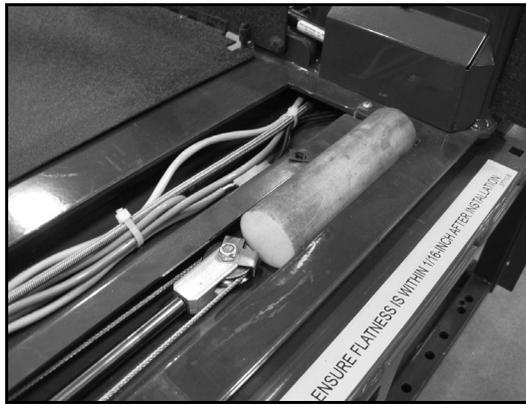

FIGURE 3-8
4. Refer to **Figure 3-8**. Partially stow lift and insert a 6" x 2" x 2" wooden block (or similar) behind gas spring. This will compress gas spring and decrease tension on cable.
13. Pull cable and insert wooden block (or similar) in baseplate, as shown in **Figure 3-8**, Section E. Allow slack in cable.
15. Partially stow lift to remove wooden block (or similar) from baseplate as shown in **Figure 3-8**, Section E. Tension to cable will be restored when wooden block is removed.